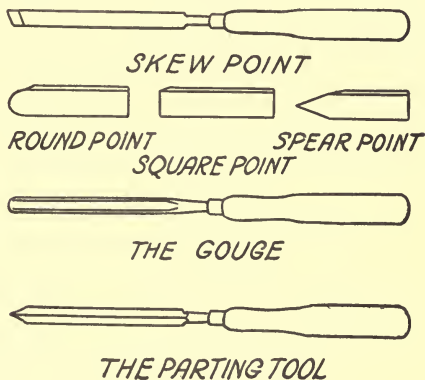

FIG. 18. A SET OF WOOD TURNING TOOLS
Turning Tools for Wood.—The tools used for turning wood¹³ are simply chisels and gouges. The chisels are made with four kinds of points, namely, (1) *skew point*; (2) *round point*; (3) *square point*, and (4) *spear point*, and these are shown in Fig 18. These chisels can be bought in all sizes from $\frac{1}{4}$ inch to 1 inch wide.
Gouges also come in sizes from $\frac{1}{4}$ inch up to 1 inch, and a *parting tool*, which is used to cut off a turned piece and which is simply a V shaped chisel, can be had in $\frac{1}{2}$, $\frac{5}{8}$ and $\frac{3}{4}$ inch sizes. These turning tools are also shown in Fig. 18. You can buy them fitted with applewood handles and sharpened ready for use for about 50 cents apiece. You can buy them of hard-